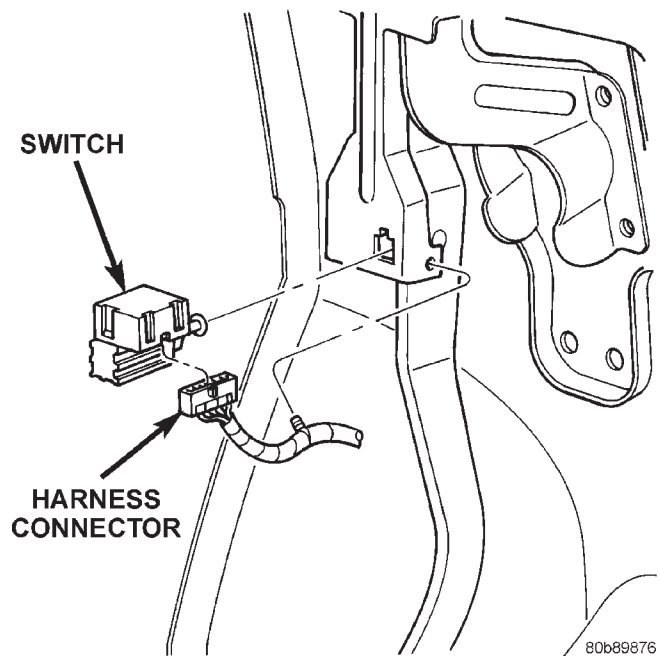

Fig. 16 Stop Lamp Switch
- (1) Remove steering column cover and lower trim panel for switch access (if necessary).
- (2) Press brake pedal downward to fully applied position.
- (3) Rotate switch approximately 30° in counter-clockwise direction to unlock switch retainer. Then pull switch rearward and out of bracket.
- (4) Disconnect switch wire harness and remove switch from vehicle (Fig. 16).